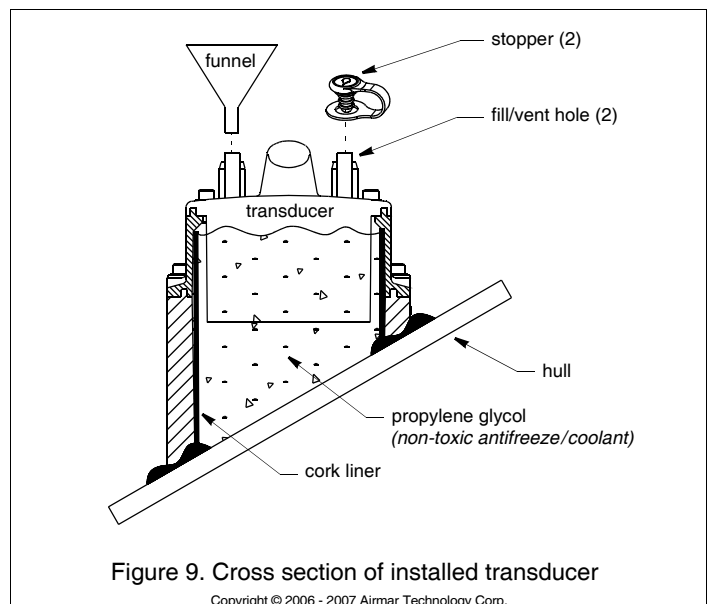

Figure 9. Cross section of installed transducer
6. Top-off the propylene glycol in the tank. However, allow a small air space to accommodate expansion with temperature changes. Using the funnel supplied, pour the fill-liquid through one of the fill/vent holes until the tank is full (Figure 9). The second hole will act as a vent. (Alternately, the tank can be filled using standard diameter tubing secured with a band clamp.) Attach the stoppers supplied and plug both fill/vent holes. To ease sliding, lubricate the stoppers with the fill liquid. Tie the funnel to the handle to keep it near-at-hand.